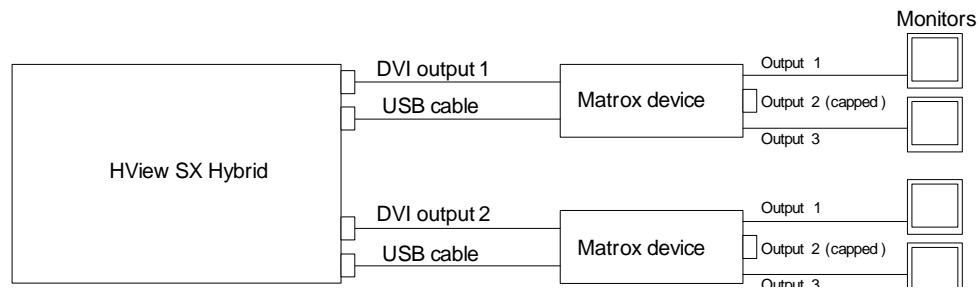

Figure 2-9 Connecting Matrox TripleHead2Go Boxes
- 2 Connect the DVI and USB cables from the Matrox TripleHead2Go device to as in **Figure 2-9**.